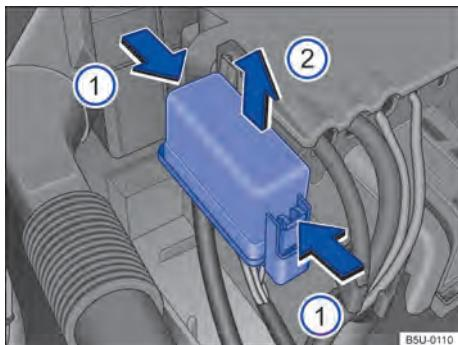

Fig. 179 On the engine compartment: fuse box cover.
- Press the retainers in the direction of the arrow → Fig. 179 ① to release the fuse box cover.
- Lift off the cover in the direction of the arrow ②.
- To fit, place the cover over the fuse box. Press the cover down, in the opposite direction to the arrow ②, until it clicks into place.